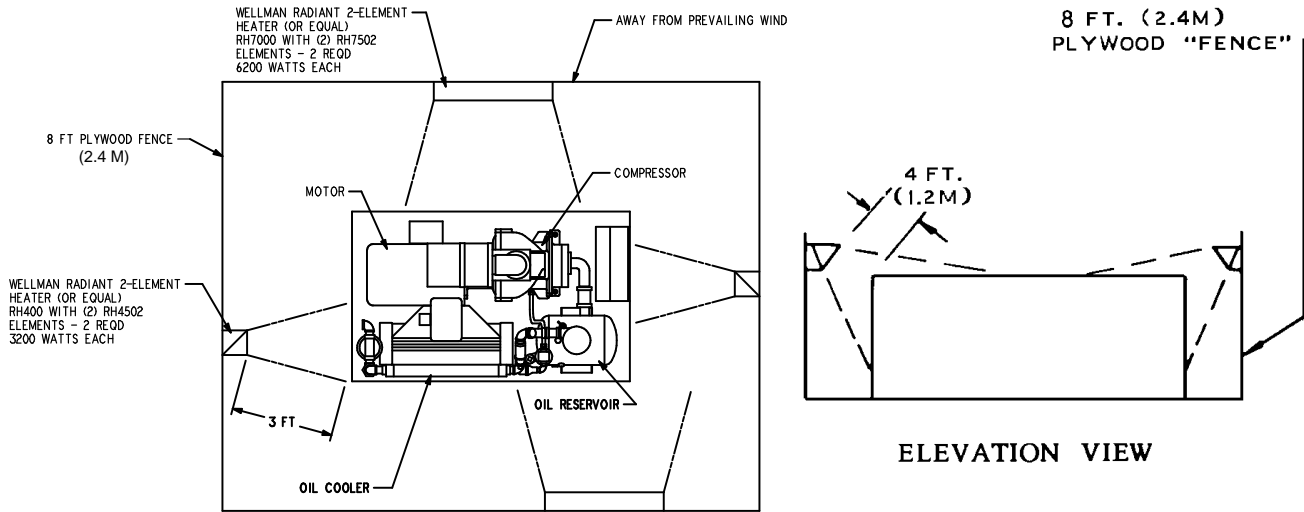

FIGURE 2-3 – COLD WEATHER INSTALLATION
**INSTALLATION FOR COLD WEATHER OPERATION** (FIGURE 2-3, page 10) – It is recommended that the unit be installed inside a shelter that will be heated to temperatures above freezing (32°F, 0°C). This will eliminate many of the problems associated with operating units in cold climates where freezing rain, drifting snow, freezing condensate and bitter cold temperatures are encountered..
3. Some means of providing heat during shutdown should be provided. There are various methods to accomplish this, but since openings are not provided for sump heaters, the use of radiant heaters is recommended. The heaters should be sized to provide at least a +10°F (-12°C) environment for coolers, motor and sump. FIGURE 2-3 shows how these might be located in a typical installation and sizes required.